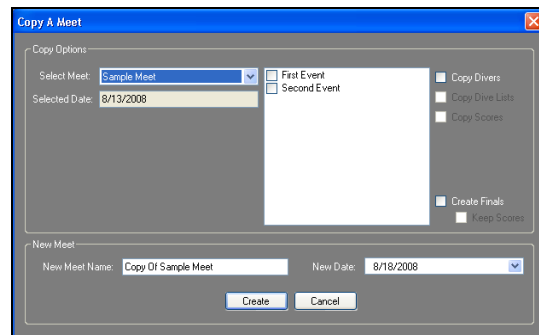

Figure 126: Copy A Meet Window
1. Select the meet to be copied from the drop-down list (Figure 126).
See *Copy* (Figure 126) for an explanation of creating a finals meet.